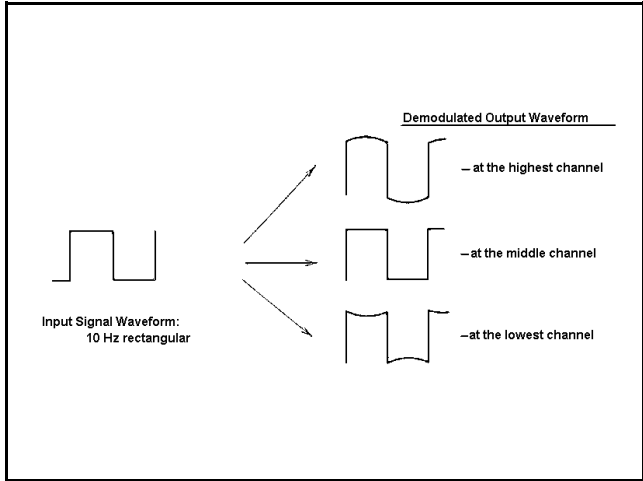

Figure 8 - Typical Rectangular Waveform of Demodulated Output
3. Change the signal to a 10 Hz rectangular waveform signal. Then, the demodulated output from the modulation analyzer should look like Figure 4. If the level adjustments under step 1 and 2 are out of balance, the rectangular waveform will be distorted (refer to Figure 8).